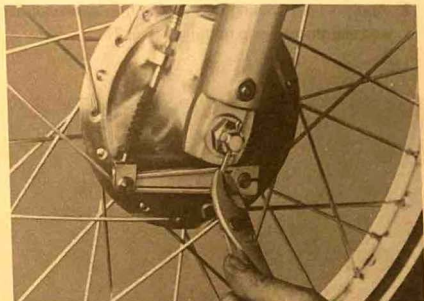

Fig. 23
8. Lock the wheel shaft nut with the cotter pin. (Fig. 23)